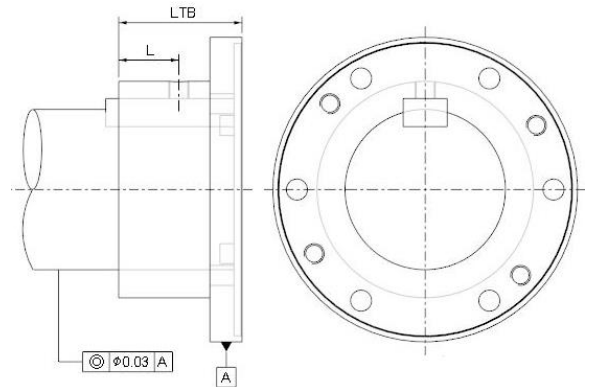

Fig.2 Finish bore
3.1. Finish Bore Instruction (Fig. 2)